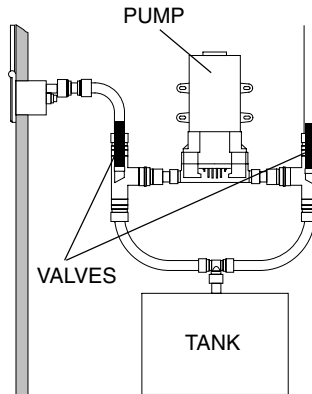

Fig. 1 Using an external water supply
1. Position the valves as shown in fig. 1 (Senator configuration only).